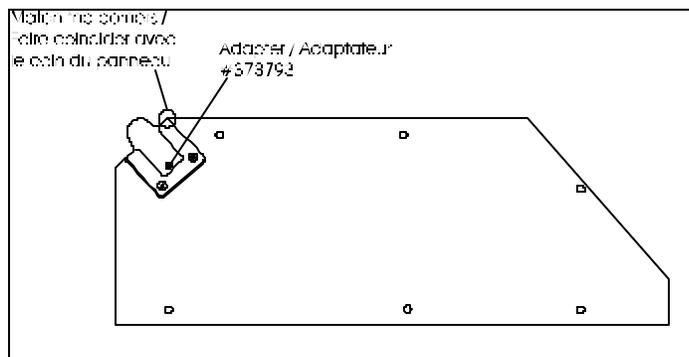

FIGURE 2 : AIR MIXING BOX FRONT PANEL
4. Drill a 1" (25mm) diameter hole in the upper left corner of the air mixing box front panel. Apply silicone on the back of adapter #373793 and fix with two screws #500638. See figure 2 for proper positioning.
3. Drill a 1" (25mm) diameter hole in the upper left corner of the air mixing box front panel. Apply silicone on the back of adapter #373793 and fix with two screws #500638. See figure 2 for proper positioning.